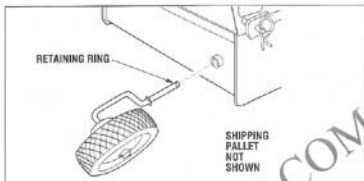

Figure 2-2: Install wheel.
- Before removing the machine from the pallet, install the wheel assembly. See Figure 2-2.
- Install the retaining ring into the groove at the end of the caster. See Figure 2-2.